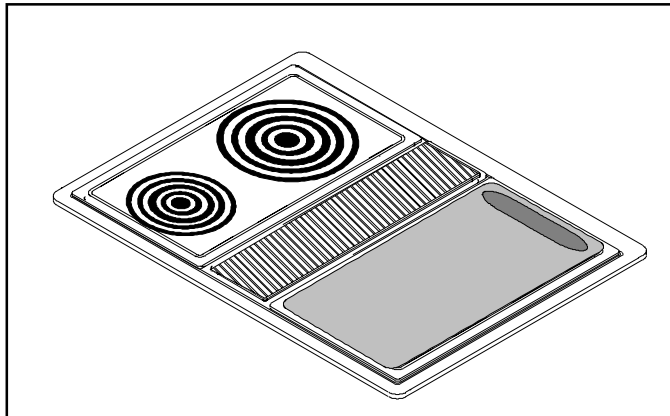

Figure 30
3. See Figure 30. With grease trap toward rear of cooktop, place griddle over of element.